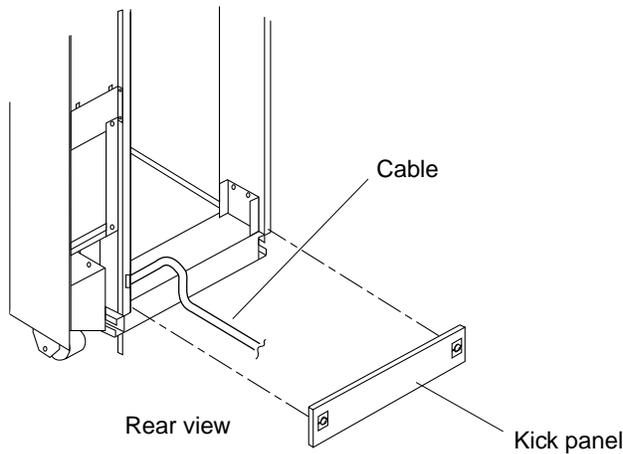

FIGURE 4-14 Routing the Cable Out of the Expansion Cabinet
3. Route the SCSI data cable over the edge of the bottom panel of the expansion cabinet (FIGURE 4-14).